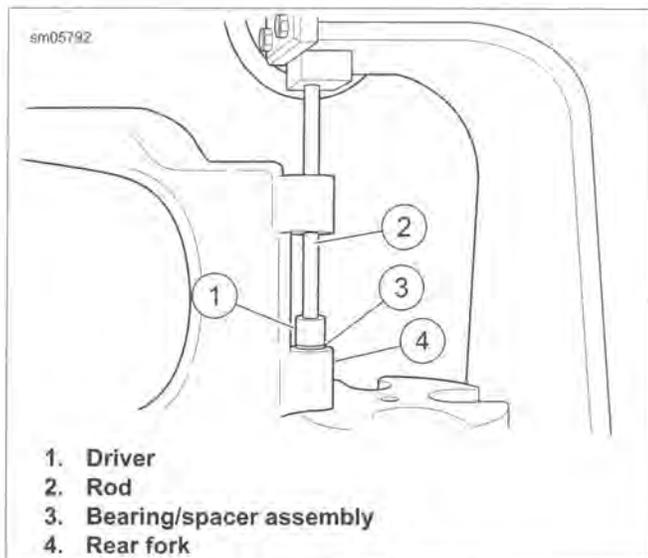

Figure 2-80. Remove Rear Fork Bearing
1. See Figure 2-80. Select a driver (1) slightly smaller than the bearing spacer and a rod (2) long enough to allow pressing through upper bearing.
2. Support the fork (4) in a press with brake anchor weldment on top. Slide rod through the brake side bearing against driver. Verify that assembly is square and the bearing bore is completely vertical.